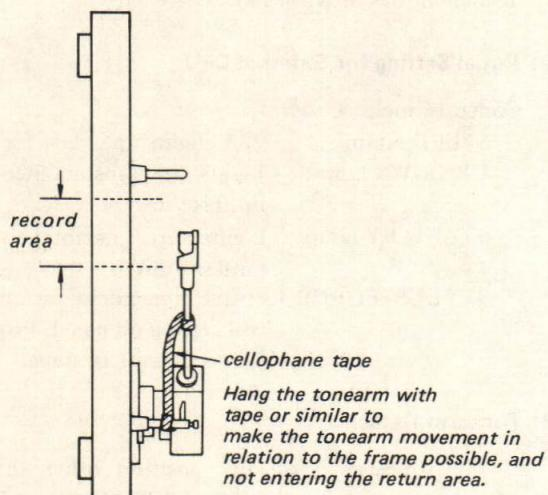

Fig. 10
5) Then, carry the tonearm by hand from the tonearm rest to the record area and as illustrated in Fig. 10, hang it in the air with a cellophane tape.